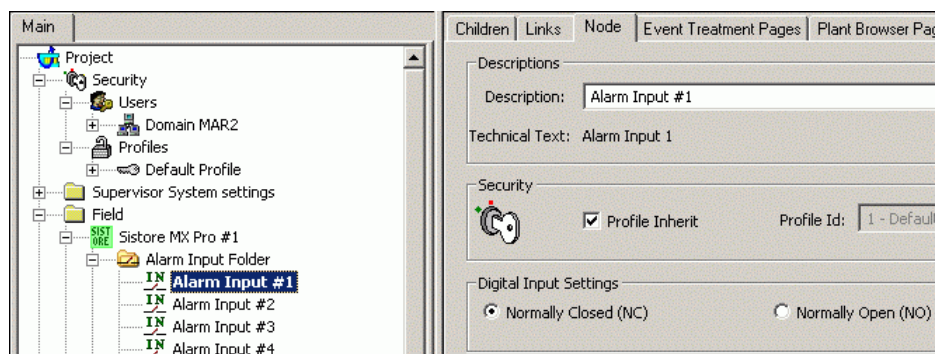

Fig 23 Connecting SISTORE to monitors
5. Set NO or NC logic (Fig 23).